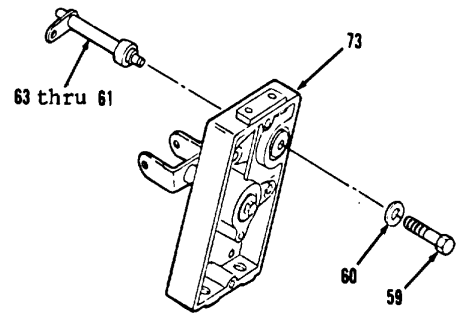
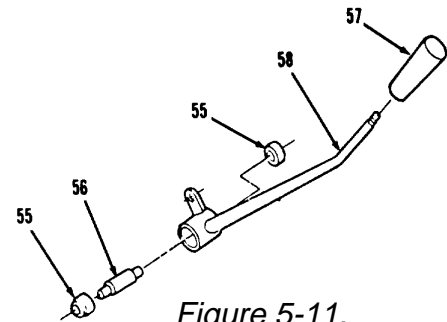

Figure 5-12.
Figure 5-11.
7. Install items 63 thru 61 as an assembly in housing (73, Figure 5-12).
8. Install washer (60) and bolt (59). Tighten bolt (59) to 25 ft-lb torque.
9. Install knob (57) on lever (58, Figure 5-11).
10. Install shaft (56) and two bearings (55).